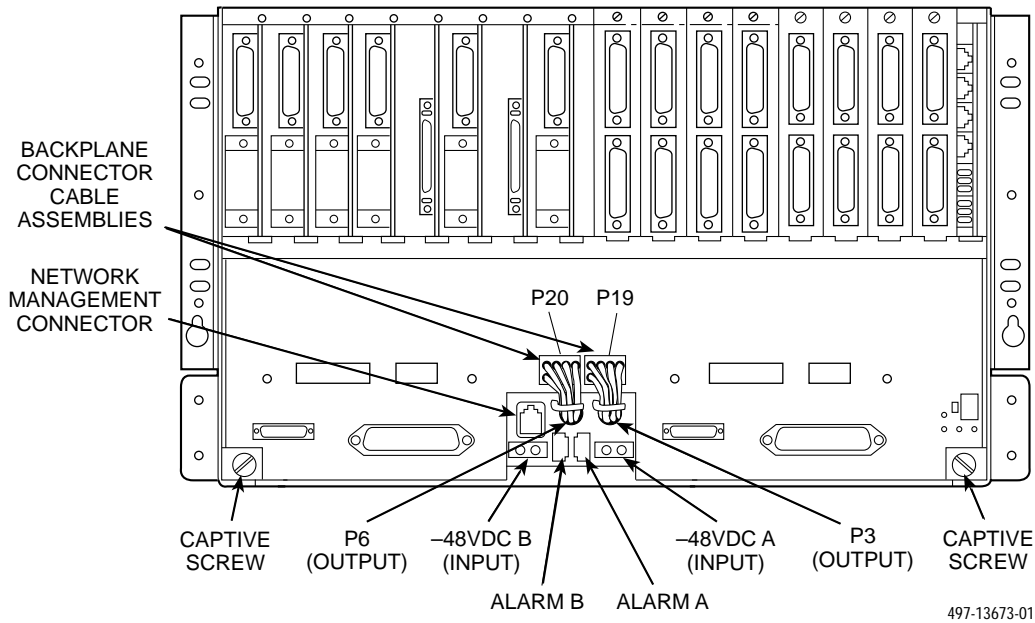

Figure 2-4. COMSPHERE 3000 Series Carrier (Rear)
4. Plug one backplane connector cable assembly from the P20 connector on the carrier's backplane to the P6 connector on the CO Power Unit's backplane. Then, plug the second backplane connector cable assembly from the P19 connector on the carrier's backplane to the P3 connector on the CO Power Unit's backplane. The backplane connector cable assemblies enable a backplane-to-backplane connection which provides low voltage dc power to the carrier (see Figure 2-4).
1. At the rear of the carrier, locate the cable connectors labeled **Alarm A** and **Alarm B** (see Figure 2-4).